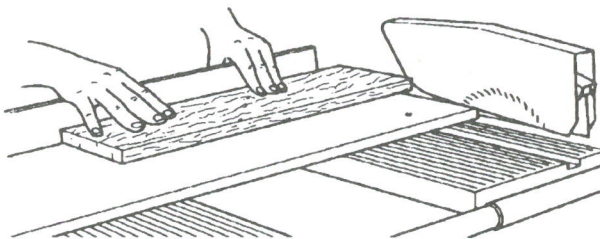
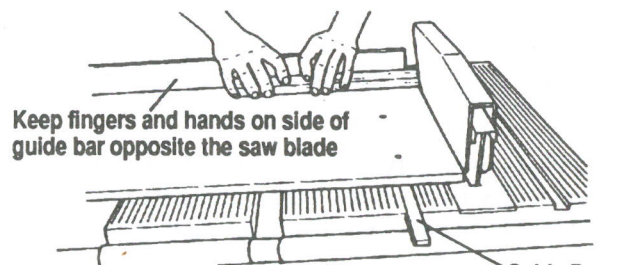
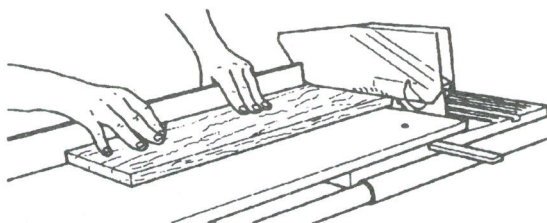
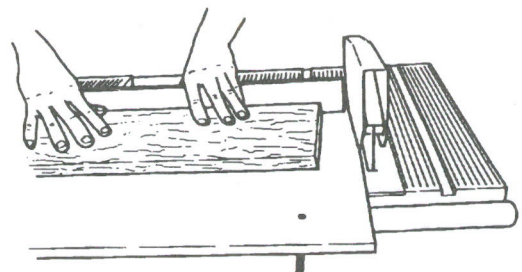

Fig. 6
Fig. 7
Fig. 8
Fig. 9
16. Place the back edge of the board against the fence, as seen in Fig. 6. Keep your hands and fingers on the side of the guide bar which is opposite the blade, as illustrated in Fig. 7. Turn on the table saw and make the cut. Fig. 8 shows the board being cut, and Fig. 9 shows the board being removed after the cut is made.